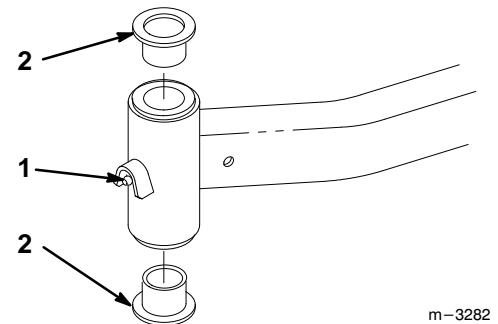

Figure 35
2. Thrust Washer (4)	5. Castor Wheel Fork
4. Insert a pin punch into the mounting tube and carefully drive out the bushings (Fig. 35). Clean the inside of the mounting tube.
5. Grease the inside and outside of the new bushings. Use a hammer and flat plate to carefully drive the bushings into the mounting tube (Fig. 35).